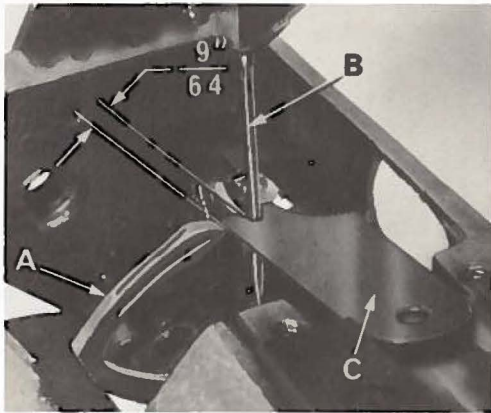
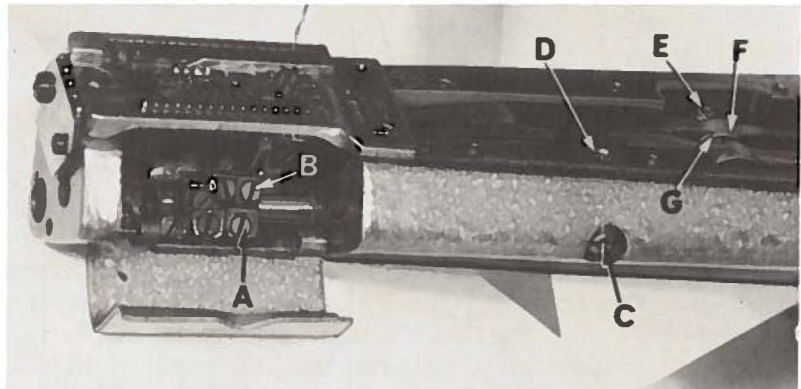
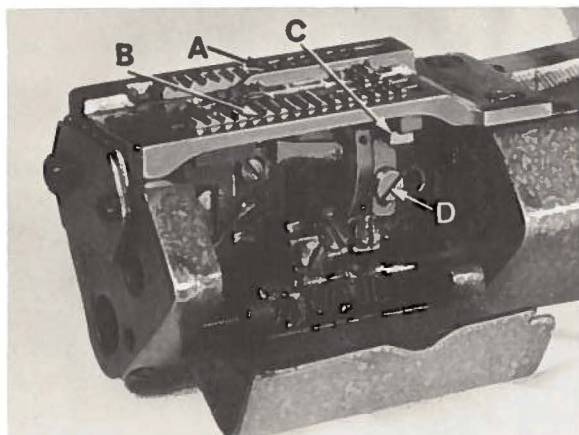

Fig. 5
Fig. 6
Fig. 7
Insert a new set of needles, type and size specified. Always adjust the looper (A, Fig. 5) for the left needle first. Set the looper so that the distance from the center of the needle (B) to the point of the looper (A) is  $\frac{9}{64}$  inch, when the looper is at its farthest position to the left. Looper gauge (C) No. 21225- $\frac{9}{64}$  can be used advantageously in making this adjustment. If adjustment is required, loosen screw (A, Fig. 6) in looper holder, permitting movement in either direction to obtain the  $\frac{9}{64}$  inch dimension as shown in Fig. 5. Retighten screw (A). Rotate handwheel in operating direction to assure that the looper point passes to the rear of the needle as close as possible without contacting, and the descending needle barely brushes the back of the looper. This adjustment can be made by loosening screw (B, Fig. 6) very slightly, so the looper can be moved in the holder, but rigid enough to retain its position while rotating machine through its cycle to attain the required movement, retighten screw. Always check the  $\frac{9}{64}$  inch looper gauge setting after setting the looper to the back of the needle, and conversely, always check the setting of the looper to the back of the needle after setting the  $\frac{9}{64}$  inch looper gauge.
Before assembling the main and differential feed dogs, set the feed bar eccentric pin (C, Fig. 6) located in the left side near center of cylinder, so that the slot in the head is in a horizontal position. This assures a neutral position of eccentricity for the purpose of raising or lowering the height of the main and differential feed bars simultaneously. The feed bar pin is retained in position by set screw (D). Assemble the differential feed dog (A, Fig. 7), main feed dog (B) and throat plate. Both the main and differential feed dogs can be individually adjusted to height due to having elongated slots for their attaching screws. The main feed dog at its highest position, should be set to project above the throat plate, slightly more than the depth of its teeth. The differential feed dog may then be leveled with the main feed dog. Tighten the attaching screws securely.
Should the main feed dog require re-positioning due to contact with the throat plate in its forward or rearward travel, loosen set screw (E, Fig. 6) in main feed bar driving link (F) rotate main feed bar eccentric driving stud (G) as required. Driving stud (G) has a thin hexagon head with cut-outs on two of the flats allowing movement by tapping with a sharp pointed tool when a thin open end wrench is not available. Whenever the main feed bar eccentric driving stud position has been changed, re-check rear needle guard setting, adjustment may be required. Retighten set screw (E). Position main feed dog support (C, Fig. 7) flush against bottom of main feed dog (B), tighten support screw (D) securely.